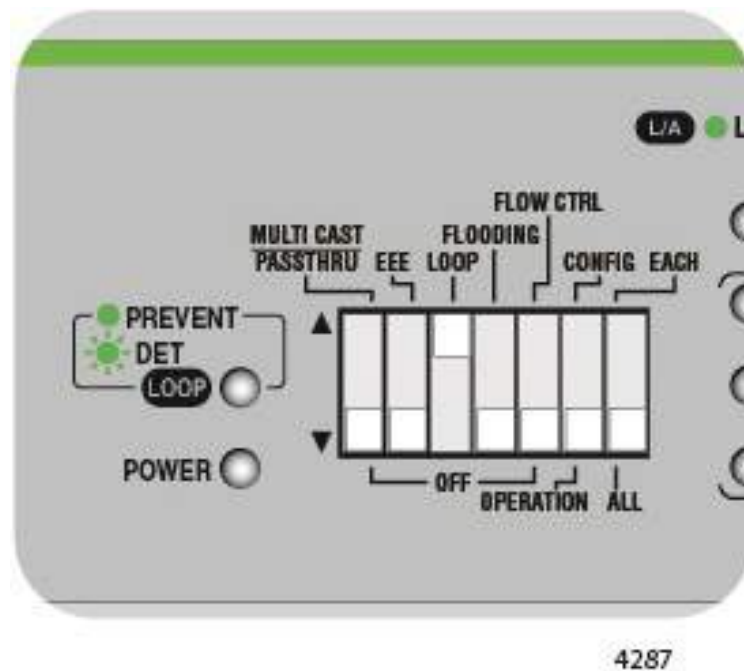

Figure 47. DIP Switch Settings for Enabling Loop Prevention
1. Set DIP switch # 3 to the UP position to enable Loop Prevention. See Figure 47.